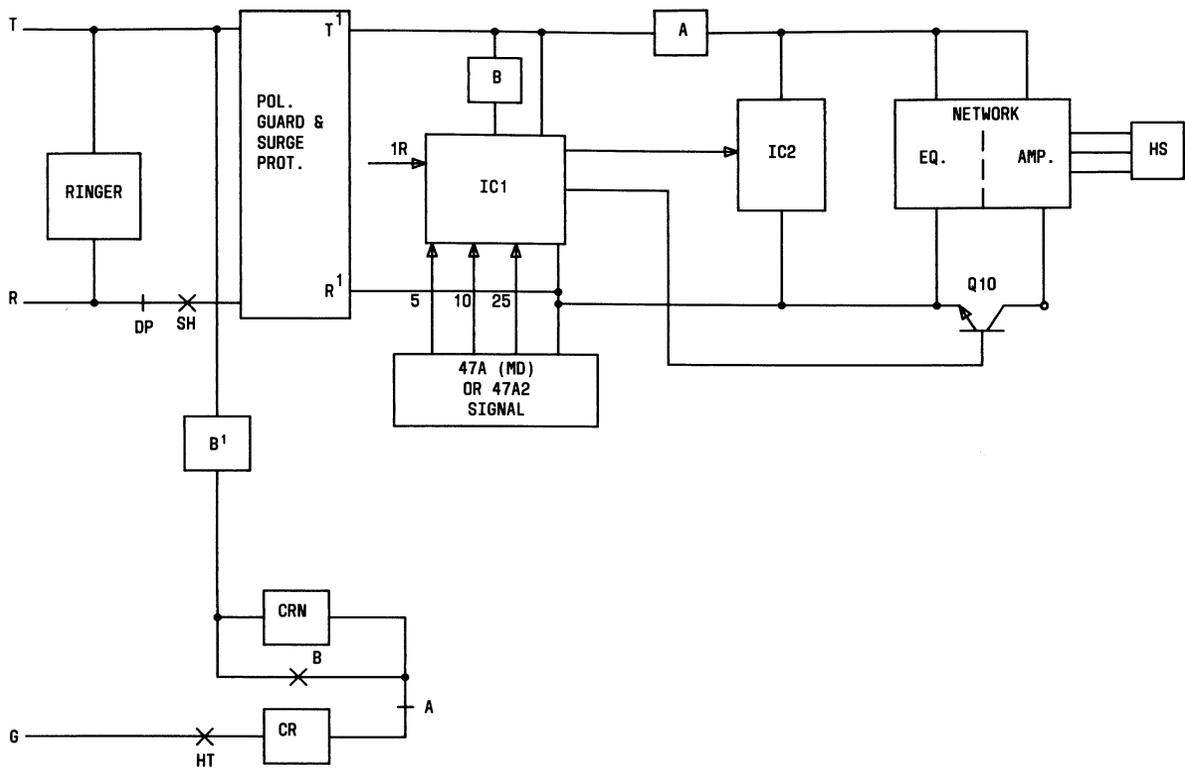

Fig. 1—1D1/2D1 Coin Telephone Set, Schematic
**2.01** Fig. 1 and 2 show block diagrams of rotary and TOUCH-TONE coin telephone sets, respectively. The 32A coin chassis includes an active network for speech equalization, the ringer, and a dual frequency coin tone oscillator. The front cover consists of a dial, switchhook, handset, and terminal board (TB2), which connects to the chassis via an 11-pin connector (J1). The 47A (MD) or 47A2 signal is attached to the side of the coin chute where coins are sensed as they leave the lower chute area. The 47A (MD) or 47A2 signal connects to the chassis via a 15-pin connector (J2).